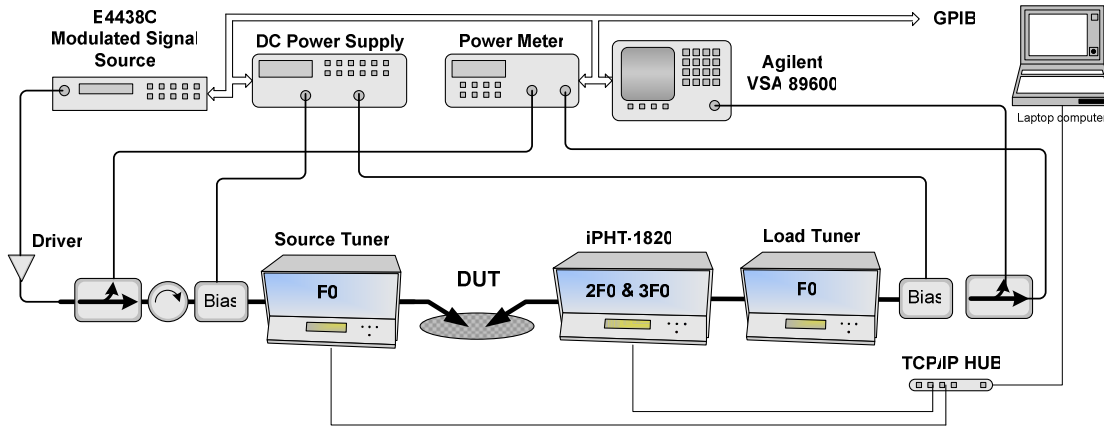

Figure 1: WiMAX Setup using Fundamental (CCMT) and Harmonic (PHT) Tuners
- Add harmonic tuning to existing load pull setups using Focus harmonic tuners (PHT, Fig.1)
Solution 1: Using a Fundamental and a Harmonic Rejection Tuner (Figure 1)
WiMAX measurements can be performed using Computer-Controlled Microwave Tuners (CCMT) and Programmable Harmonic Rejection Tuners (PHT). This method is modular and allows current owners of Focus or Maury fundamental tuners to upgrade their capabilities with harmonic tuning through the simple addition of a PHT. The PHT is inserted between the DUT and the load tuner, as shown in Figure 1 and allows phase control of the second and third harmonics while maximizing the magnitude of the reflection (frequency dependent between $\Gamma=0.85$ and $\Gamma=0.95$). Harmonic reflection is generated with exchangeable individual harmonic resonators, customized for each particular 5% frequency band. It is therefore necessary to obtain resonators for each frequency band of interest [2]. The PHT is very low-loss at the fundamental frequency, thereby maximizing the tuning range at fo and has low-pass behavior, thus avoiding spurious, out-of-band oscillations; because of the reduced size of the setup, this solution is good for on-wafer measurements.